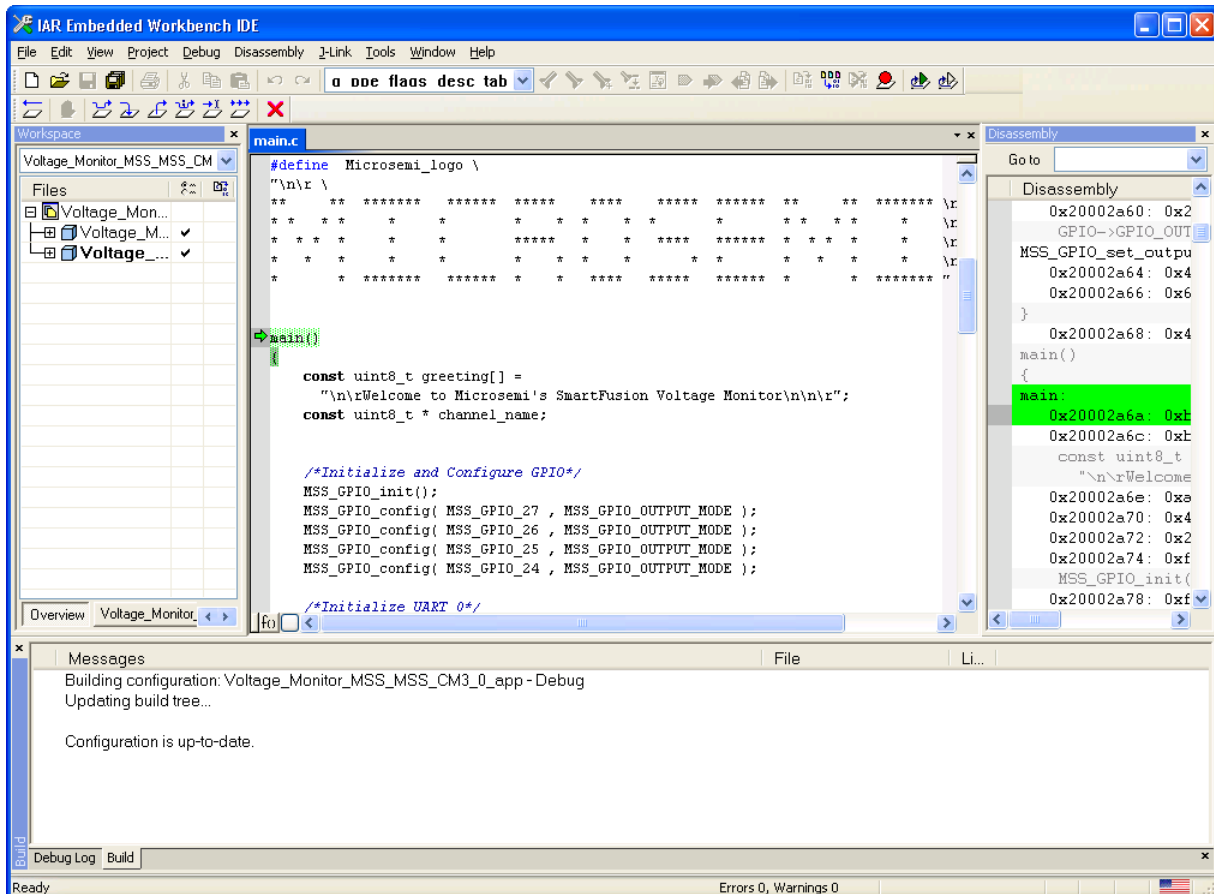

Figure 48 · IAR Workbench After Downloading the Project
3. The Workbench window is displayed as shown in Figure 48 . .